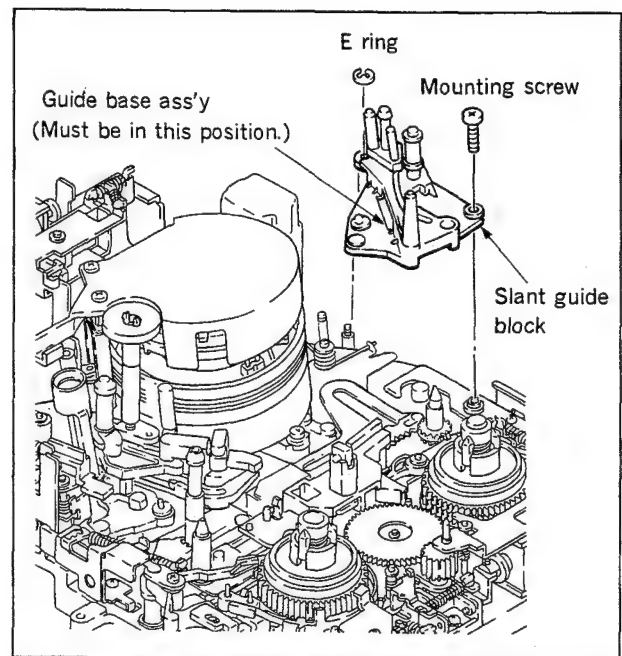

Fig. 4-12-4 Slant guide block replacement/ installation
1) Hold the guide base ass'y of the replacement slant guide block at the unthreaded end (i. e. guide base ass'y is positioned to the reel table side shown in the figure), then set it on the mechanical deck. (Fig. 4-12-4)